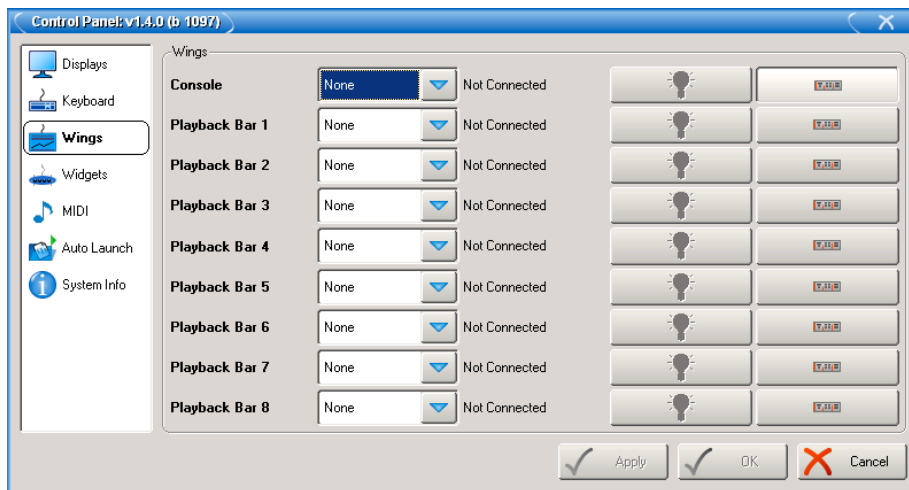

Figure 12.13. The Wings pane of the Control Panel
2. Setup → Control Panel → Wings : open the Wings pane of the Control Panel window (see *Figure 12.13, “The Wings pane of the Control Panel”*).